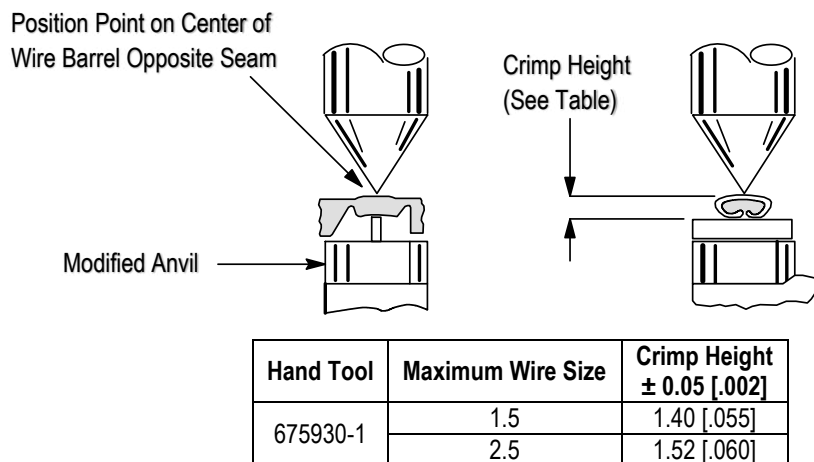

Figure 4
3. Measure the wire barrel crimp height as shown in Figure 4. If the crimp height conforms to that height, the tool is considered dimensionally correct. If not, return the tool for evaluation and repair. See Section 6, REPLACEMENT AND REPAIR.